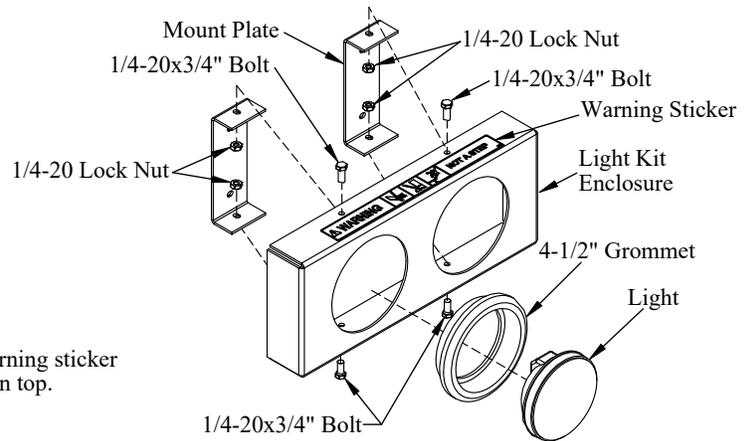

Figure 16: Light kit parts assembly.
Do not tighten at this time (Figure 16).
17. **Tighten** all light kit bolts to 9ft-lb (Figure 16).
18. **Press** the 4-1/2" rubber grommets into the light holes (Figure 16).
23. **Push** lights into installed 4-1/2" rubber grommets (Figure 16).